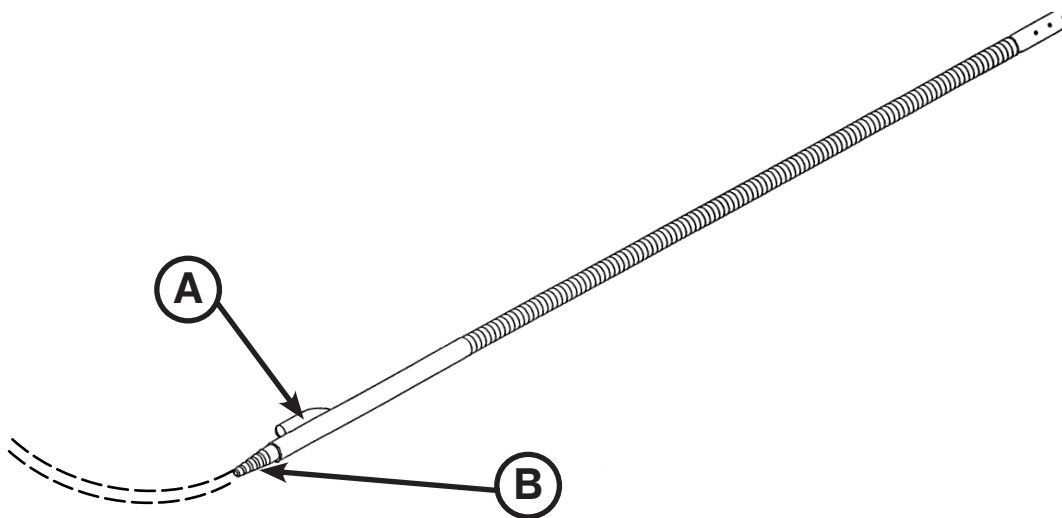

Figure 10: Oxygen Tubing
Place the mounting tab (A) into the I.V. receptacle at the head end of the stretcher and insert the air delivery line into the air tube receptacle (B) as shown in Figure 10.